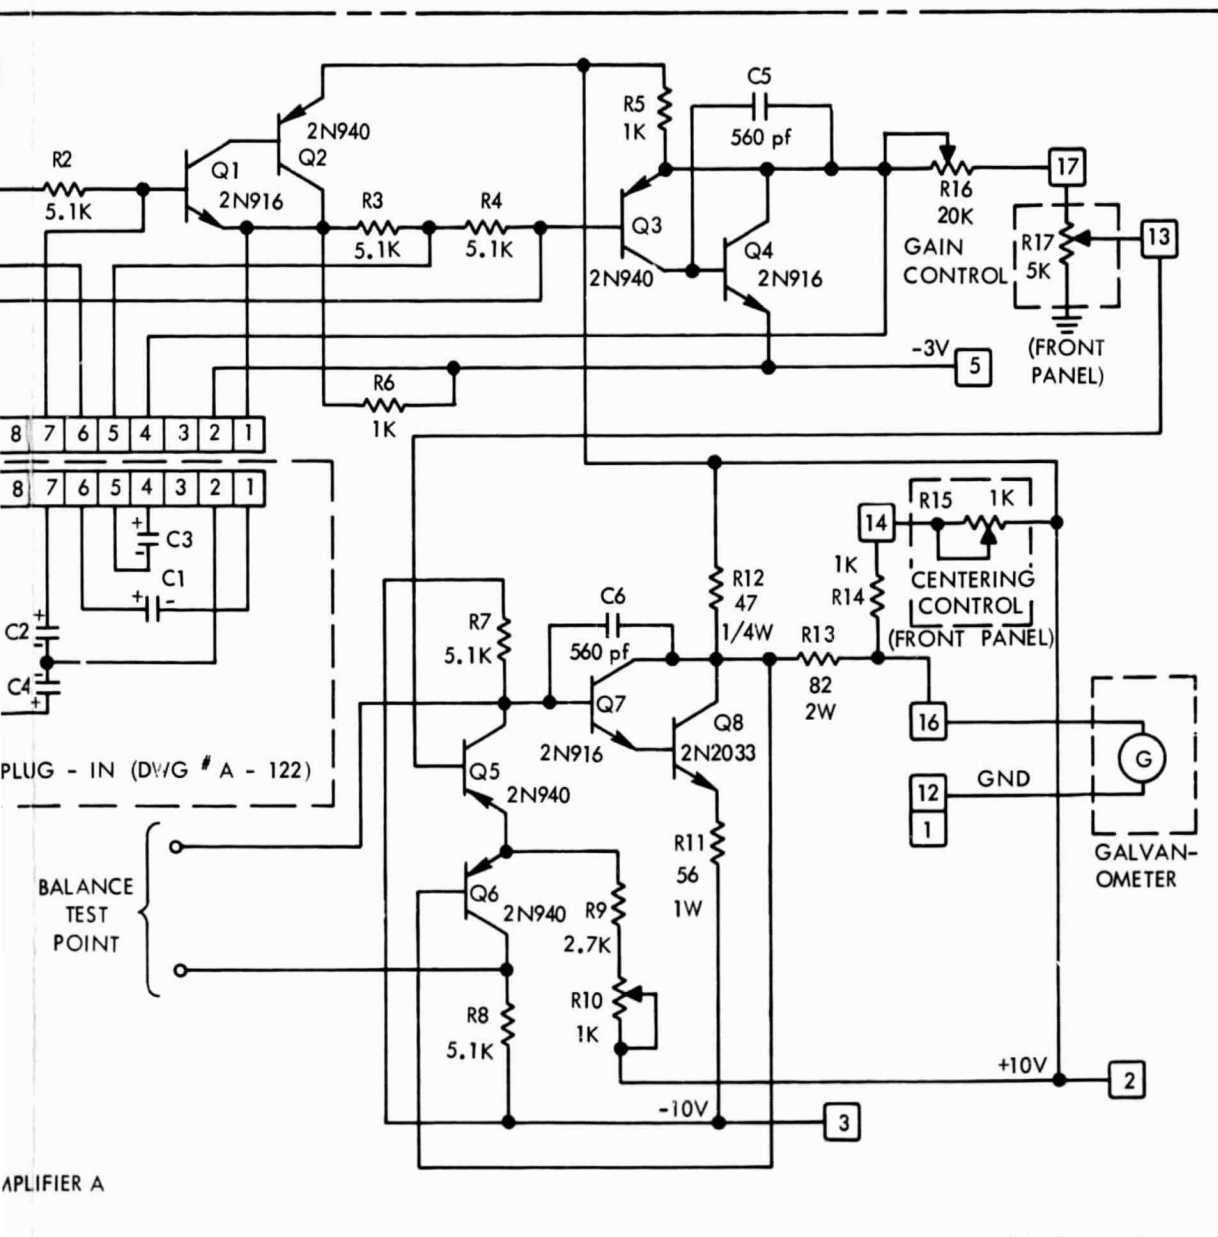

Figure 13. Galvanometer Driver Amplifiers, Schematic Diagram
13. With all galvanometers aligned, turn the GAIN potentiometer on the front panel fully clockwise. Starting from Channel 1, adjust gain potentiometer R16, on the card, so the galvanometer spot deflects 2 inches when Simulator data varies from zero to +5 volts dc. See Figure 13. Adjust all 16 amplifiers in this way. This adjustment will change the zero position of these galvanometers, so realign the galvanometers.